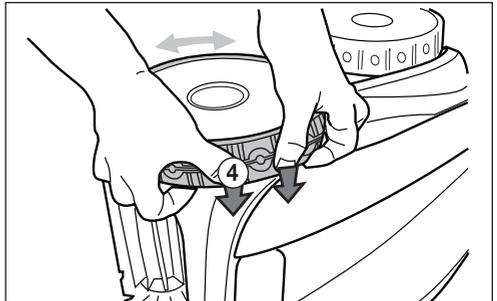

Figure 28. Push the Tyre into Place on the Wheel
6. Push and position the rib of the inner side of the tyre in the groove of the wheel. If needed, turn the wheel gently to help with installation. See Figure 28.